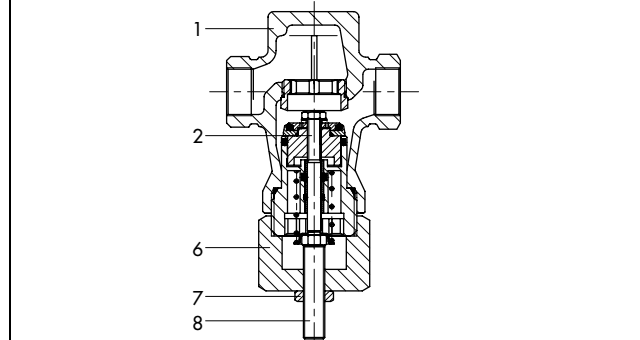

Fig. 5 · Type 2431 K Valve with manual adjuster
**Manual adjuster** (Fig. 5) - directly attached to the valve